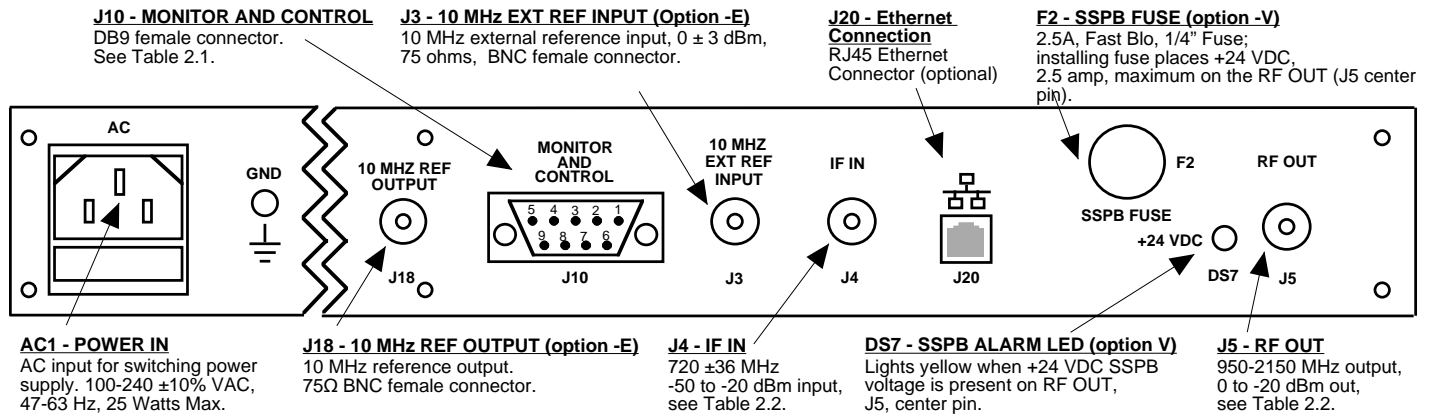

FIGURE 2.1 2015-04-720 Rear Panel I/O's
2.2 Rear Panel Input/Output Signals - Figure 2.1 shows the input and output connectors on the rear panel.
1. Connect a -50 dBm to -20 dBm signal to IF In, J4 (Figure 2.1)